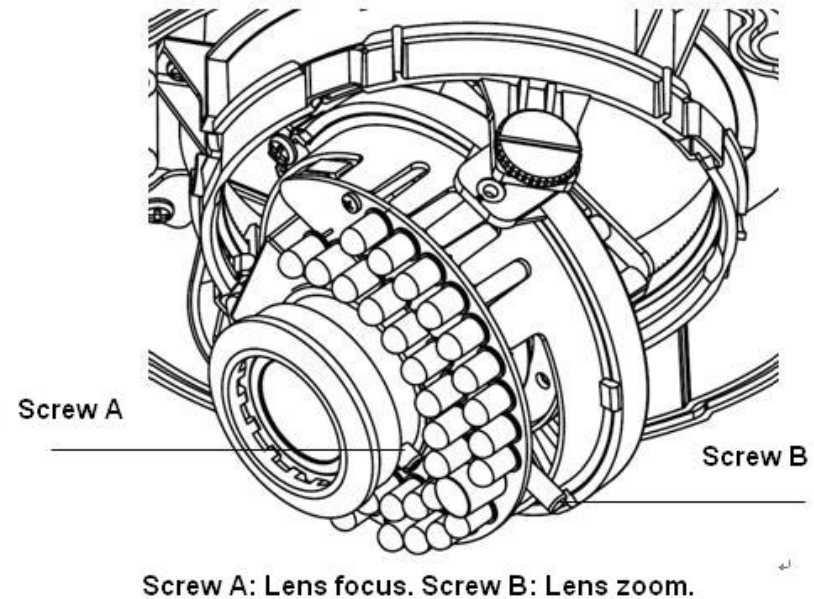

Figure 2.3.7
Step 7: Please follow these steps to adjust lens. Figure 2.3.7